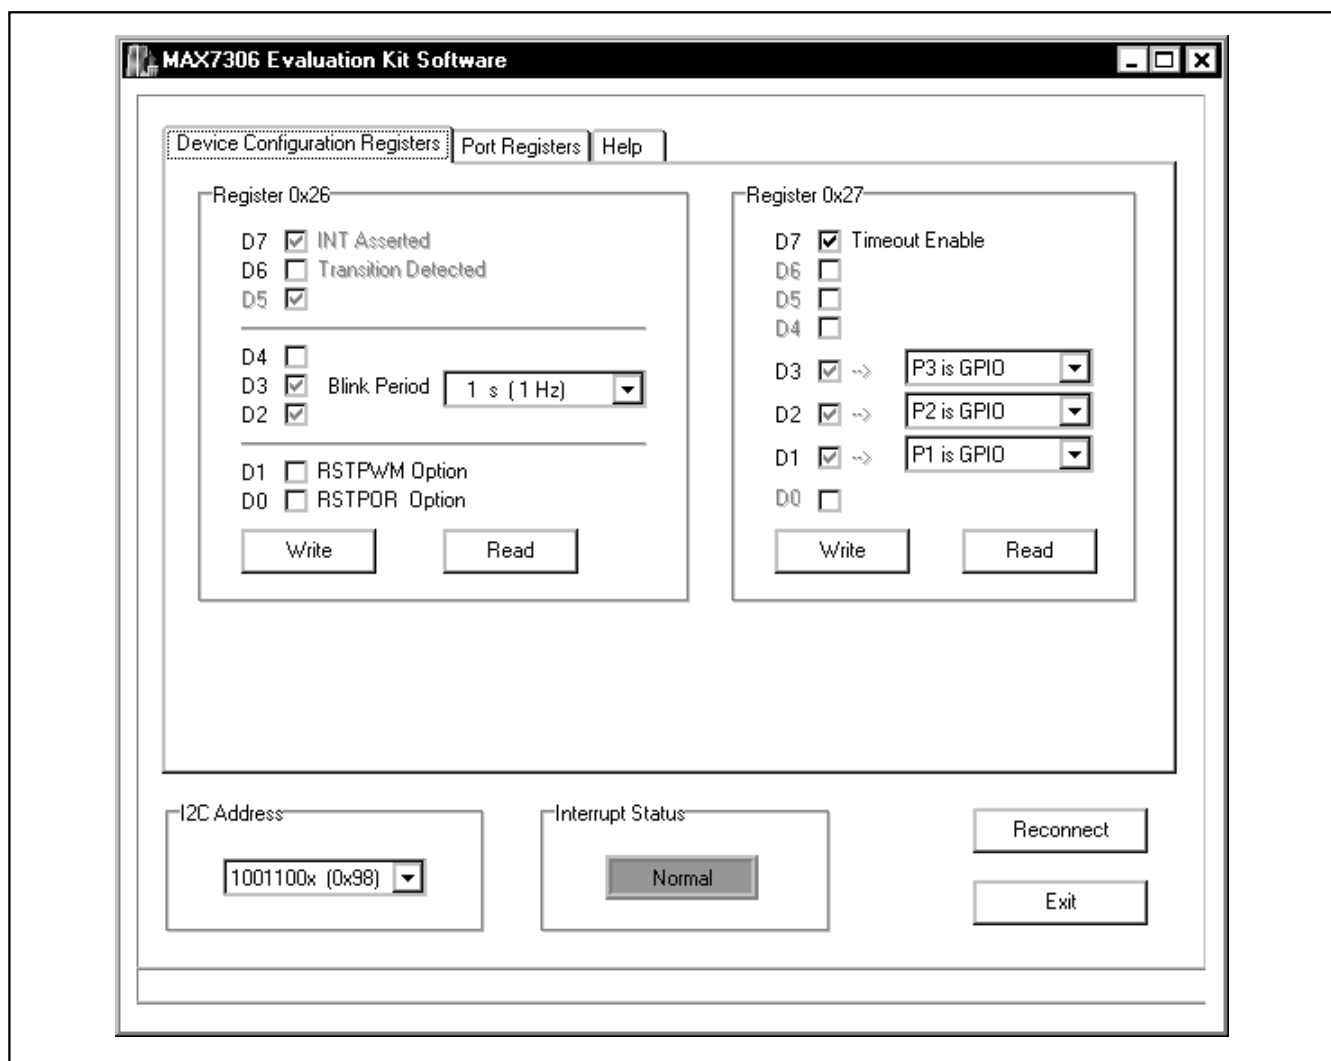

Figure 1. MAX7306 Evaluation Software Main Window (Device Configuration Registers Tab)
- 11) Start the MAX7306 EV kit software by opening its icon in the **Start** menu. The GUI main window will appear, as shown in Figure 1.
To start the MAX7306 EV kit software, double-click the MAX7306 EV kit icon that is created during installation. The GUI main window appears as shown in Figure 1. The user will have to wait approximately 2s while the MAX7306 EV kit software connects to the CMAXQUSB board.
The **Device Configuration Registers** tab shown in Figure 1 contains two group boxes: **Register 0x26** and **Register 0x27**.